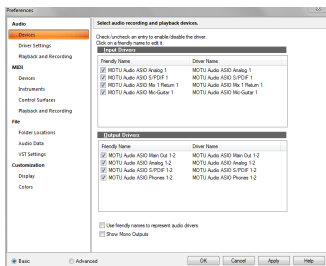

Figure 6-8: Enabling inputs and outputs in SONAR.
- 5 Check the MicroBook inputs and outputs that you wish to use and uncheck the ones you don't (Figure 6-8).
5 Check the MicroBook inputs and outputs that you wish to use and uncheck the ones you don't, (Figure 6-8 on page 36).